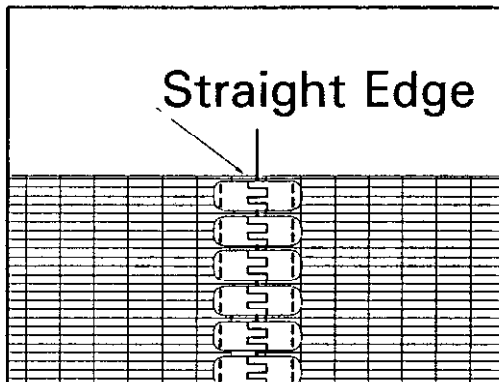

Figure 10
## CONVEYOR BELT INSTALLATION/TENSION (Fig. 10 & 11)
6. Feed the lacing through the conveyor belt seam. Make sure the lacing is lined up. If the lacing is off one notch it will cause the belt to buckle and not run straight. Check for straightness with a straight edge once it has been installed. See Fig. 10. After the wire is centered, bend both ends of the wire to prevent the wire from working loose.